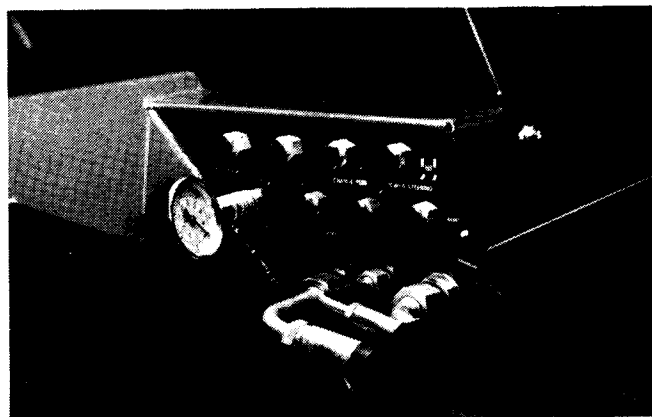

Figure 12
1. Connect a 5,000 psi gauge onto the LIFT test port (Fig. 12).
2. Connect a 5,000 psi gauge onto the LIFT test port (Fig. 12).